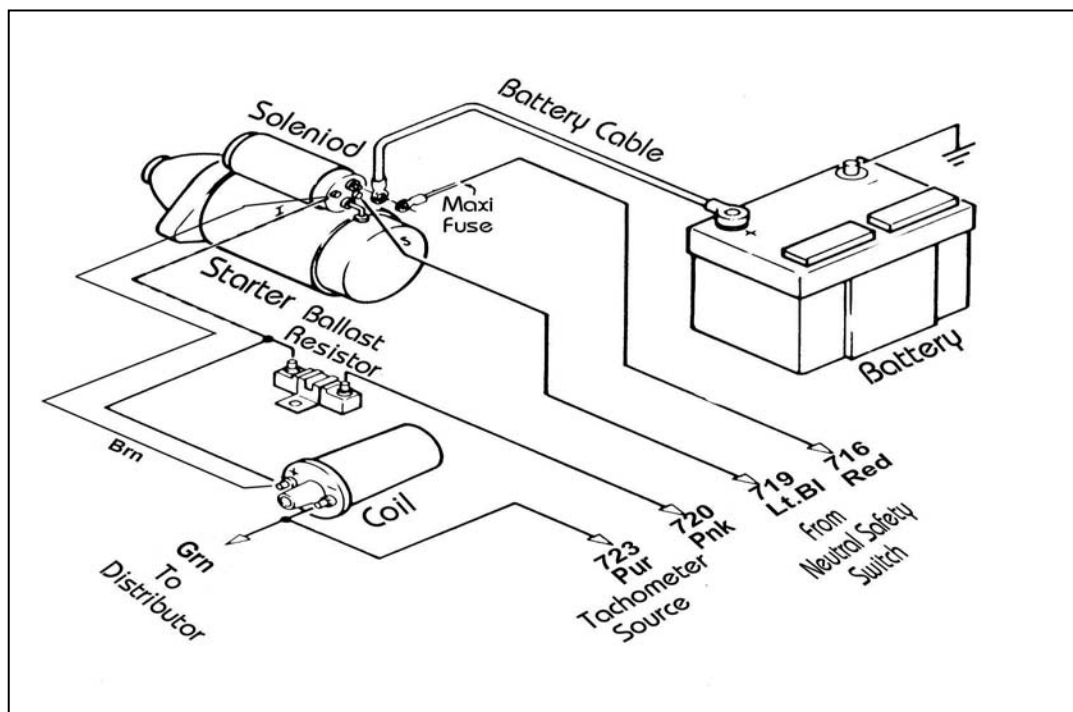

Figure 8.4 Delco Ignition (Start/Run) System
8.1.4 Delco Ignition (Start/Run) System. See Figure 8.4.
- F. A 14-gauge wire connected from the Starter Solenoid Ignition (I) terminal to the ignition coil side of the Ballast Resistor is optional. This wire (in **Figure 8.4**) serves as a Ballast Resistor BYPASS during engine starting. However, if the starter solenoid shorts out, which is not unusual, the engine will stop running and will not restart as long as this wire is connected. You may therefore choose to omit it. If you are not using a Ballast Resistor, leave the Starter Solenoid Ignition (I) terminal unconnected and do not install the bypass wire.